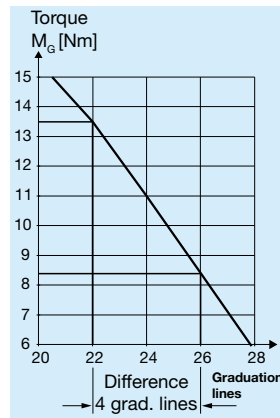
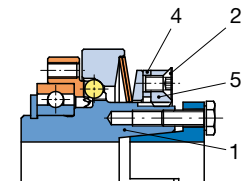

Fig. 4 (The diagram only serves as an example)
Fig. 8
EAS®-NC size 02 (Fig. 8 and Fig. 4):
- Loosen the locking screw (2).
- Grease the contact surfaces on the adjusting nut (5), the locking ring (4) and the hub (1).
- Set the adjusting nut (5) by hand to the contact on the cup spring (9).
- Continue to turn until the four notches on the circumference of the adjusting nut (5) and the notches in the locking ring (4) align.
- Turn the adjusting nut (5) further using a face wrench to the number of graduation lines which equal the required torque (Fig. 4, number of graduation lines in the Adjustment Diagram). The 4 notches on the circumference of the adjusting nut (5) and on the locking ring (4) must be in the same position.
- Paint the locking screw (2) with Loctite 243 and screw it into the adjusting nut (5).